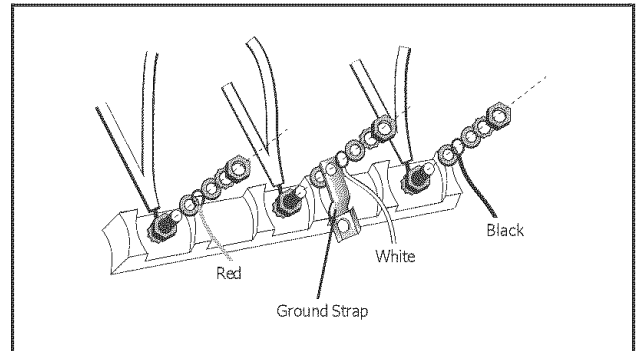

Figure 7
4. Attach white wire, round washer, star washer and nut IN THIS ORDER on top of ground strap on center post. DO NOT remove ground strap. (See Figure 7).
5. Attach red wire, round washer, star washer and nut IN THIS ORDER to left post (See Figure 7).
6. Attach black wire, round washer, star washer and nut IN THIS ORDER to right post (See Figure 7).